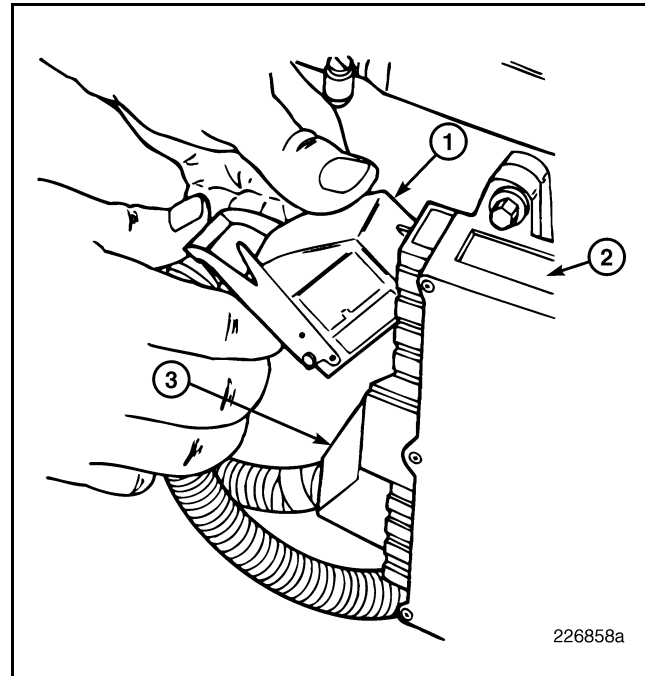

Figure 84 — EECU Connector Removal
2. Disconnect the wiring harness to the EECU (Figure 84).